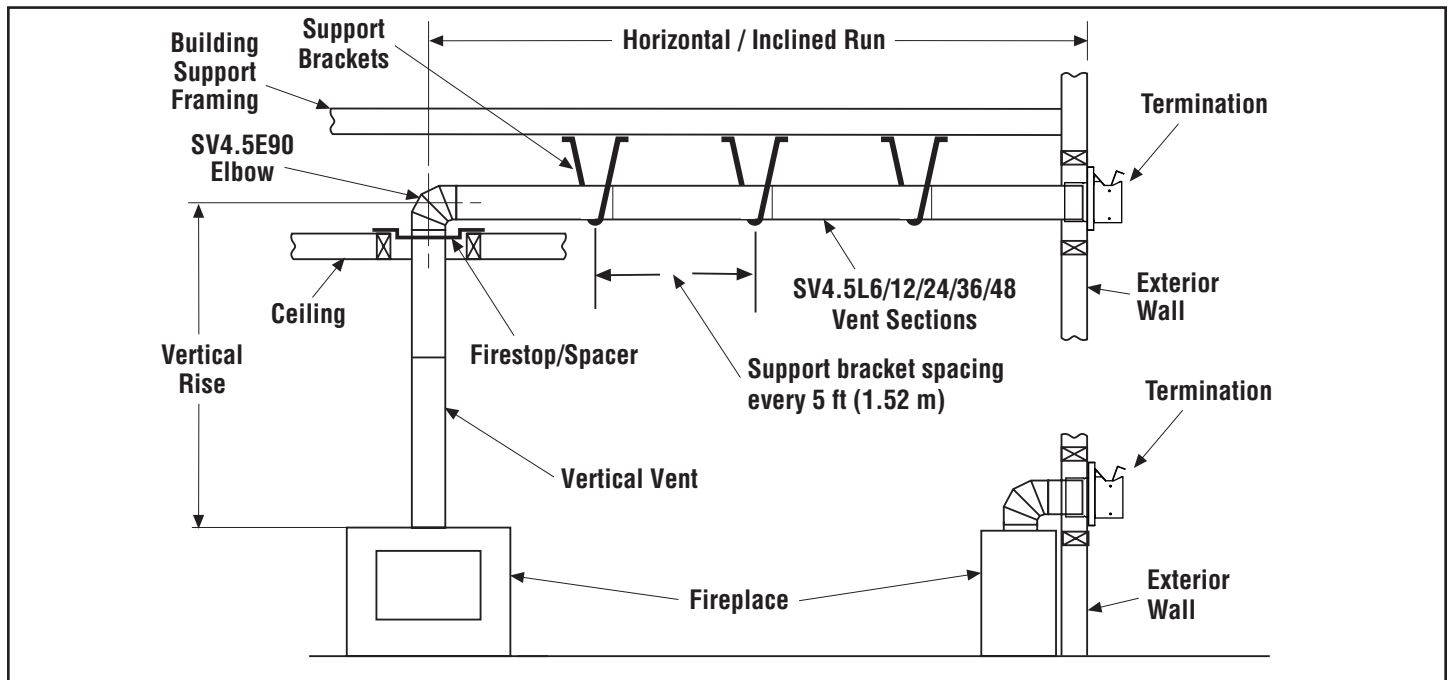

Figure 8 - Typical Horizontal Vent Installation
- 7. Support fireplace vent outlet with field provided support straps (Plumber's tape)**—Attach the straps to the vent pipe and secure to the framing members with nails or screws (Figure 8).
9. **Continue installation of horizontal/inclined sections**—Continue with the installation of the straight vent sections in horizontal/inclined run. Install support straps every 5 ft. (1.52 m) along horizontal/inclined vent runs using conventional plumber's tape (Figure 8, page 14). Maintain the horizontal/inclined run in a straight (no dips), slightly elevated plane. The recommended incline is approximately 1/4" per 1 ft (20 mm per 1 m) horizontal, in a direction away from the fireplace. Smaller rise per foot run ratios are acceptable all the way to at or near level. Use a carpenter's level to measure from a constant surface and adjust the support straps as necessary. Maintain the required clearances to combustibles (Page 9).